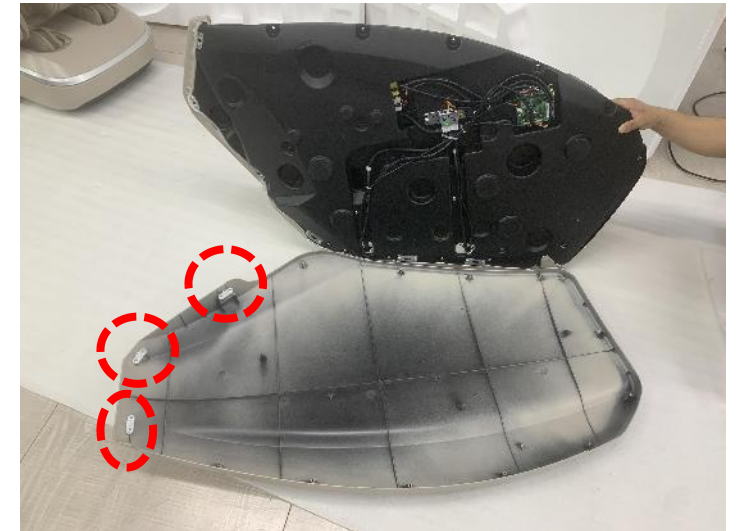

Figure 3
3. Pay attention to the buckle position when removing the outer cover (Figure 3)
4.17. Disassembly of armrest, intelligent voice control board, wireless charging board and USB board (2)